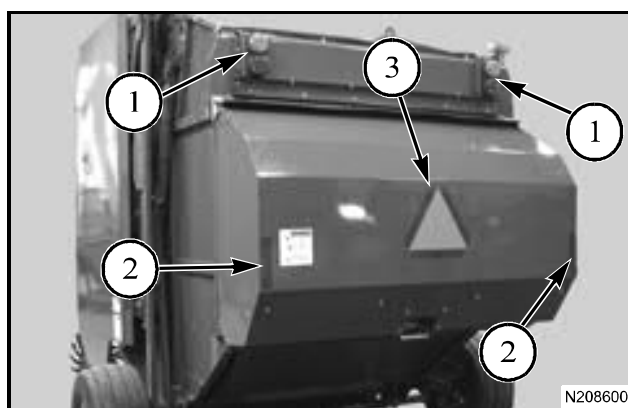

FIG. 10
FIG. 10: The baler is equipped with a lighting and marking system. The lighting system includes the lighting wiring harness, seven pin SAE connector and the warning lamps (1). The marking system includes yellow front reflectors, red rear reflectors (2) and the SMV (slow moving vehicle) emblem (3) mounted on the back of the tailgate.